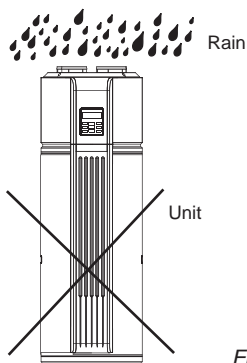

Fig.3-9
- In case of rain entering to internal components of the unit, the component might be damaged or causing physical danger. (Fig.3-9)